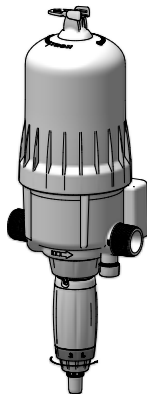

Fig. 16
- Retighten the dosing locking nut (**Fig. 16**).